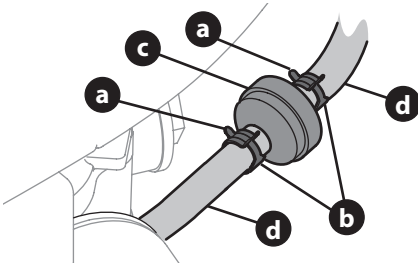

Figure 18
2. Use pliers to squeeze tabs (a) on the clamps (b), then slide the clamps away from the fuel filter (c) (Figure 18).
3. Twist and pull the fuel lines (d) off of the fuel filter (Figure 18).